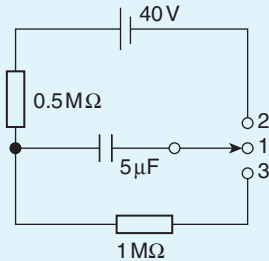

Figure 18.9
- (a) In the circuit shown in Fig. 18.9, with the switch in position 1, the capacitor is uncharged. If the switch
S is moved to position B, the current value decreases, causing a decrease in the strength of the magnetic field. Flux linkages occur, generating a voltage v_L , equal to $L(di/dt)$. By Lenz's law, this voltage keeps current i flowing in the circuit, its value being limited by R . Thus $v_L = v_R$. The current decays exponentially to zero and since v_R is proportional to the current flowing, v_R decays exponentially to zero. Since $v_L = v_R$, v_L also decays exponentially to zero. The curves representing these transients are similar to those shown in Fig. 18.9.